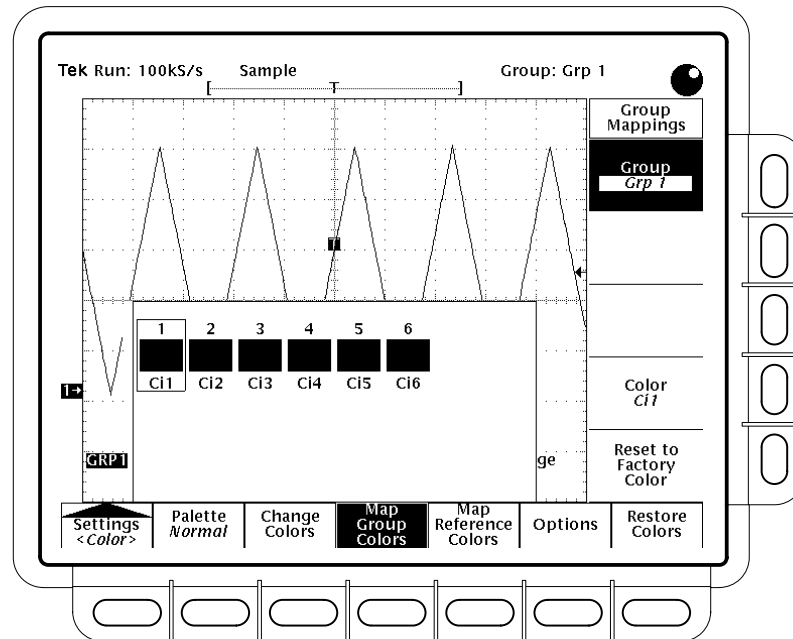

Figure 3-22: Display Menu — Map Group Colors
1. Press **Map Group Colors** in the main menu. (See Figure 3-22.)